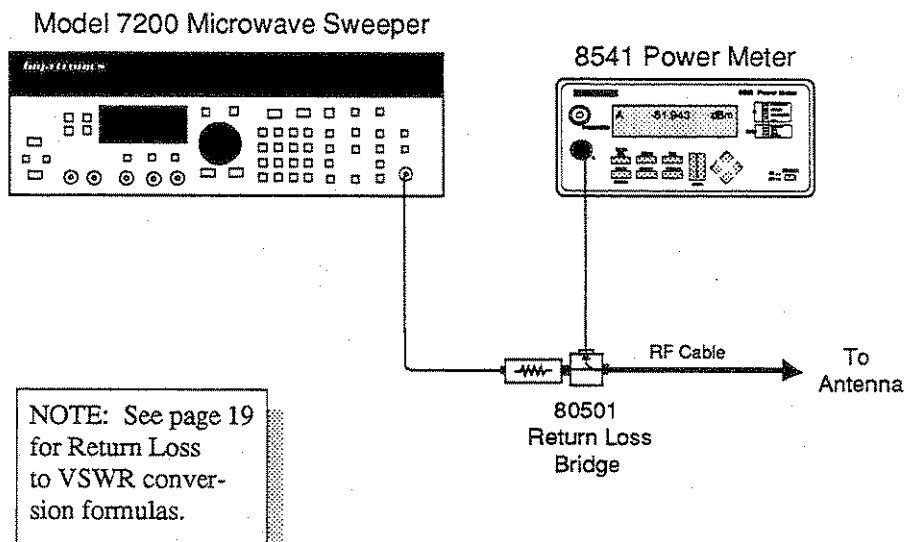

Figure 19. Measuring Return Loss.
1. Connect the Power Meter and Return Loss Bridge as shown in Figure 19 above.